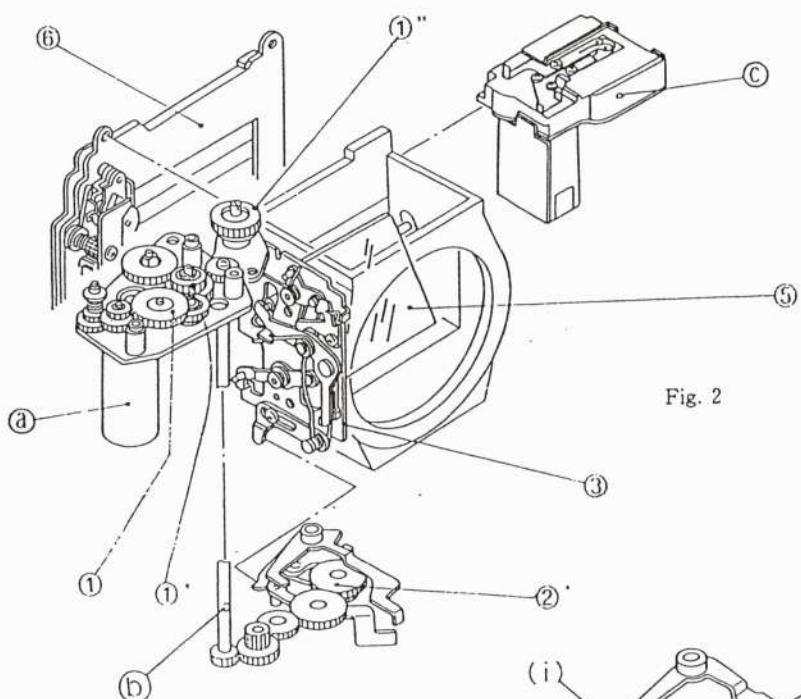

Fig. 2
#### (1) Film Winding Mechanism (refer to Fig. 2)